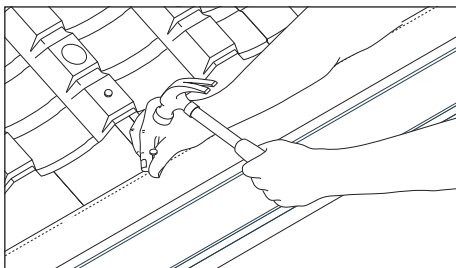

Fig. 2
- 4 Nail to top of fascia or tilting fillet using 45mm x 3.35mm (10mm OFV) or 60mm x 3.35mm (25mm OFV) aluminium nails at every nail hole position (Fig. 2).